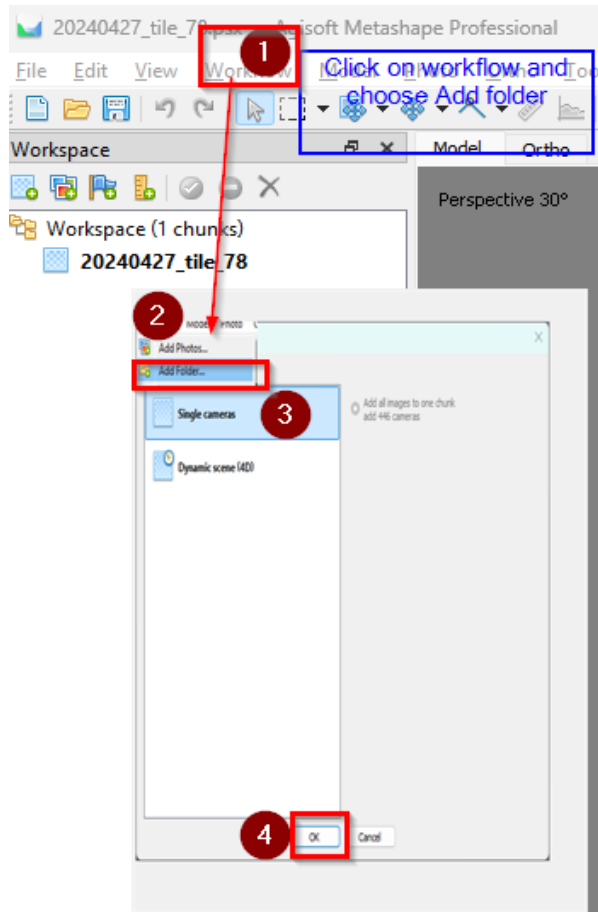

Figure 6: Workflow--> Add Folder and Select *single Cameras* to add M3M images
**Note:** If you add your multispectral images, there will be another option in Figure 6, called the multi-camera system, and you have to select this option. We do not have any calibration images and are not loaded.